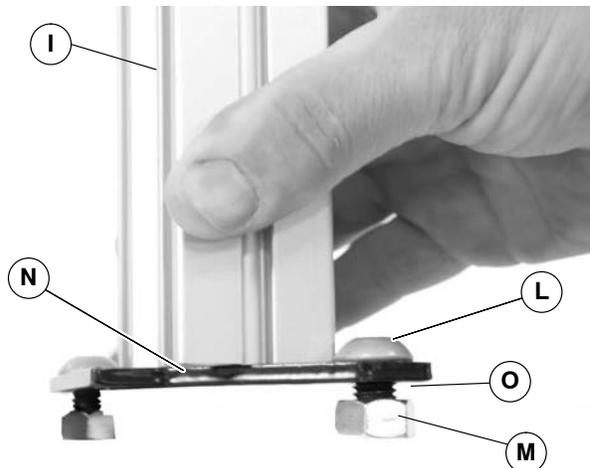

Figure 4
3. Place a button screw (L of Figure 4) through each hole in the end plate (N) of a leg tube (I). Attach a hex nut (M) to the screw. Leave a gap (O) between the nuts and end plate.